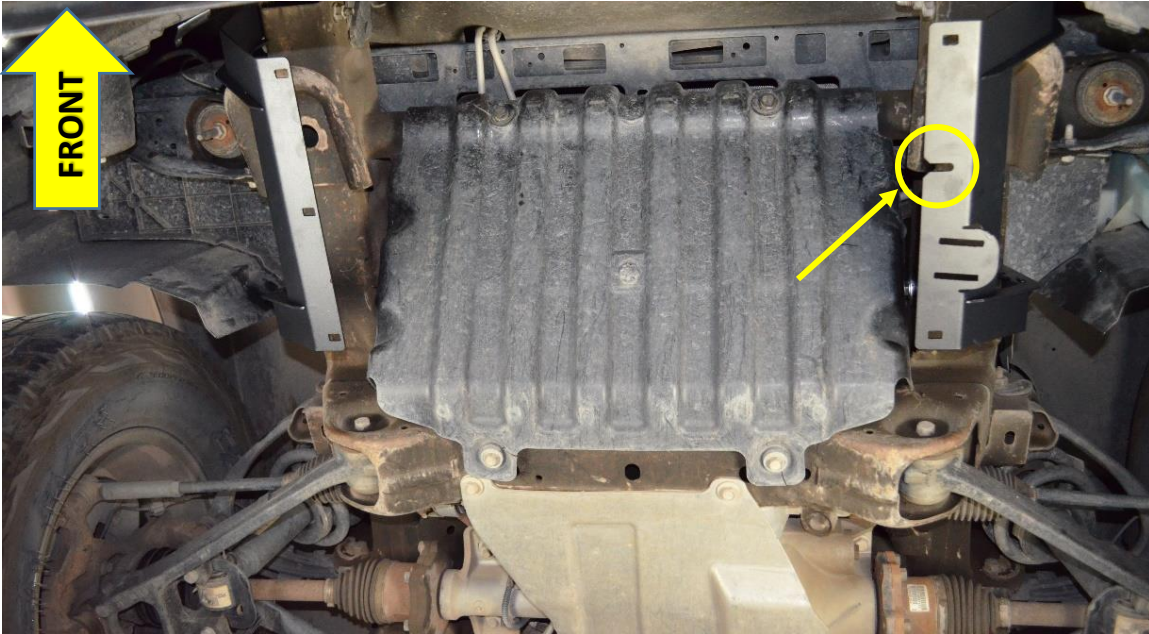

Figure 18 – Underside of Vehicle, with Brackets Mounted
- 9.5.3. Raise Bracket into place by sliding Bolt into open slot of GM1500-BRKT-DR, as circled in Figure 18.